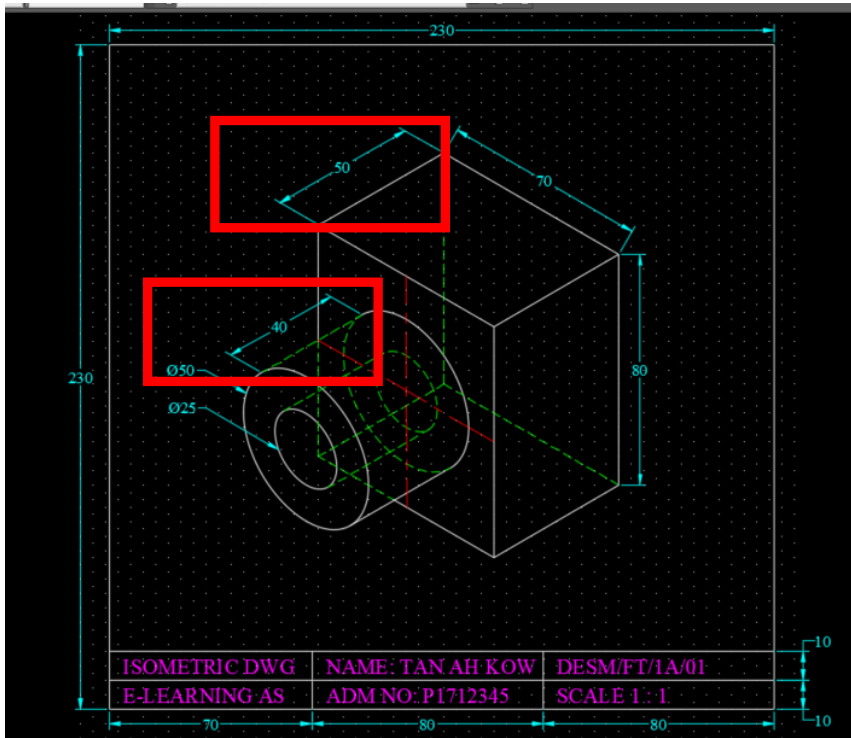

FIG 16
17. Select the dimensions 50mm & 40mm to oblique and enter the obliquing angle 150 degrees and enter to complete the command as shown in Fig 16: